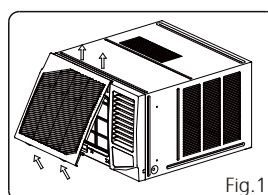

Fig.1
2. Hold the slot under the front panel, then uplift it outwards, and remove the front panel (See Fig. 1)